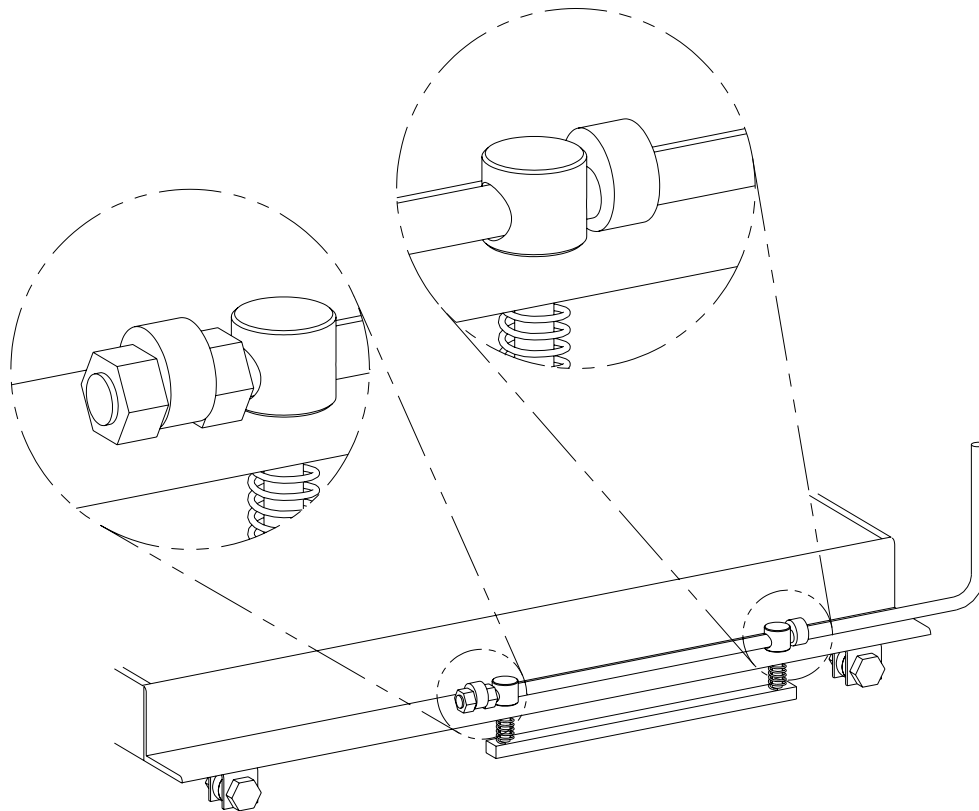

Figure 13
29. Attach the lifting chains to each crossrail chain connector using the **Grade 8 shoulder bolt 5/16 x 1-1/2 long** and ¼ nut. The floor may slope significantly from the front of the lift to the rear. If the slope is known, apply the necessary corrective measure as indicated in Figure 13.